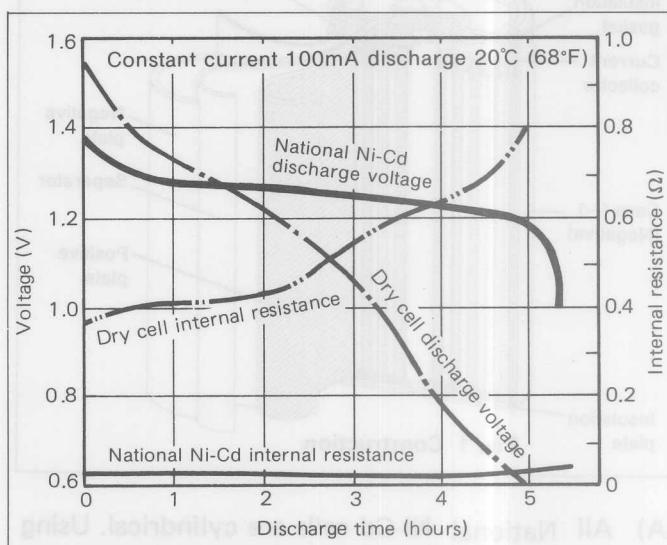

Fig. 2 Comparison of discharge performance of National Ni-Cd vs. dry cells
(A) The discharge characteristics of National Ni-Cd cells are extremely flat when compared to those of dry cells. The initial power of a dry cell is 1.5V, whereas that of the National Ni-Cd cell is 1.2V. But, as shown in Fig. 2, the voltage of the National cell is higher for the largest portion of the discharge curve.